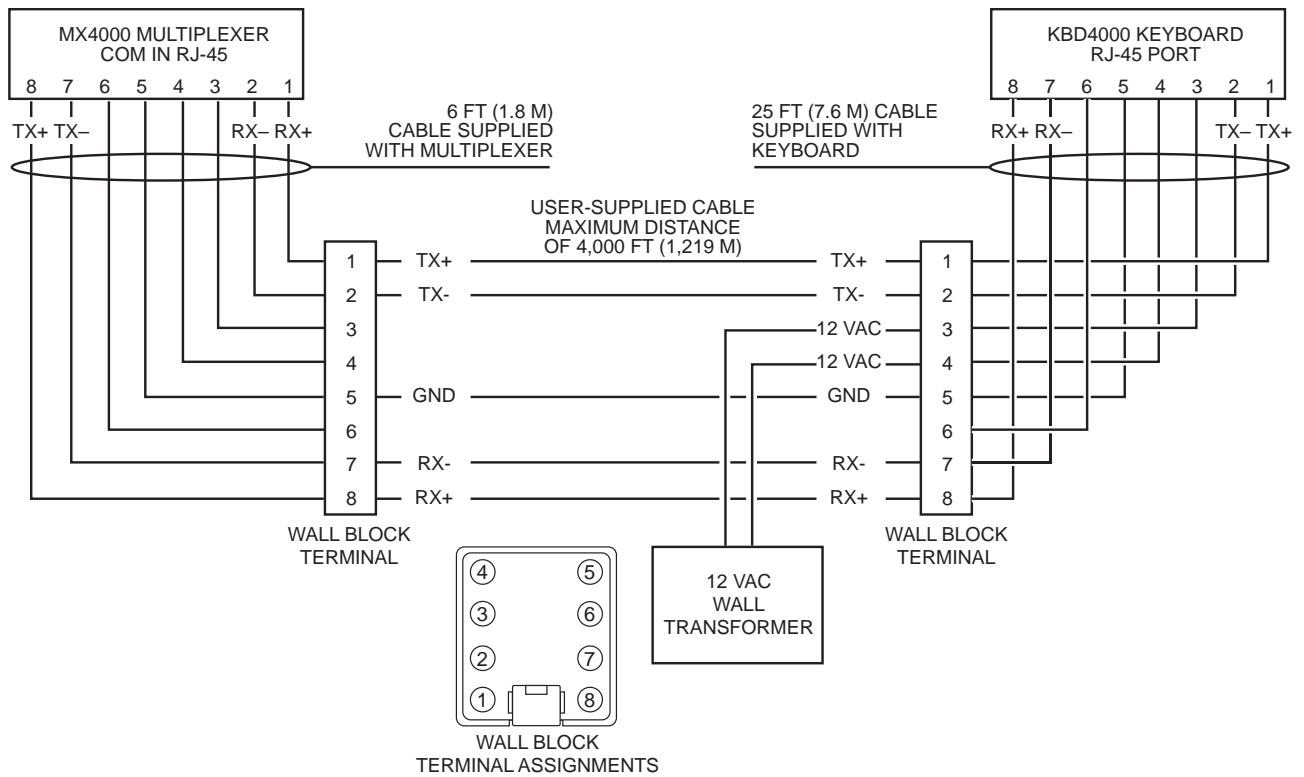

Figure 3. Wiring Diagram for KBD4000 Keyboard and MX4000 Series Multiplexer
NOTE: The second RJ-45 wall block is for use with the KBD4000 keyboard and MX4000 multiplexer only. See Figure 3.
2. Determine the location of the keyboard. It must be located within 25 feet (7.6 m) of where you will install its wall block. Refer to Figure 3. The wall block for the KBDKIT must be within 6 feet (1.8 m) of the nearest electrical outlet to accommodate the transformer. Communications with the keyboard, which is connected to the wall block, is RS-485.
3. Determine the location of the multiplexer. It must be located within 6 feet (1.8 m) of where you want to install its wall block. Refer to Figure 3.
5. Remove the covers from the wall blocks. Connect the cable to the wall blocks according to Figure 3. Connect the transformer to terminals 3 and 4 of the keyboard wall block. Polarity is unimportant.